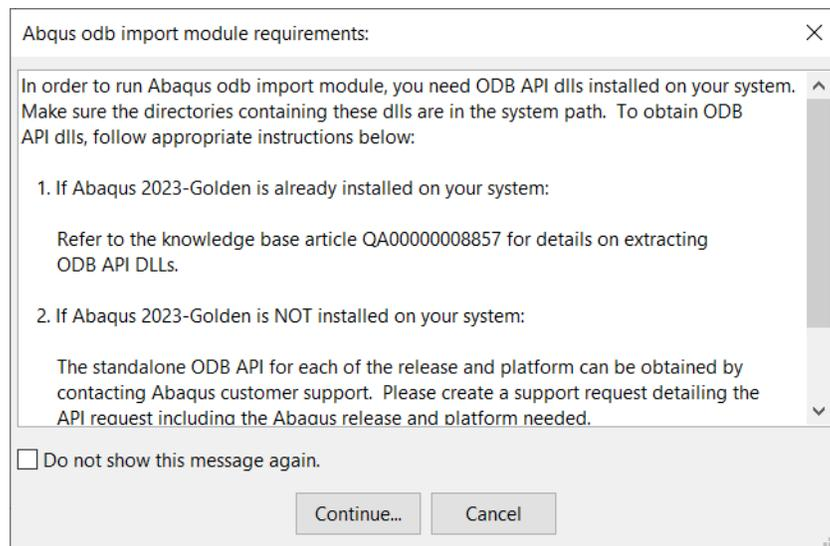

**Figure 5.1** Importing a finite element structure mesh.
- To import FE mesh: Right-click on **Structures** and select **Import** → **Nastran Bulk Data (.bdf) File** (see Figure 5.1) to import mesh from Nastran bulk data format. The FE meshes from other data formats
Right-click on **Model** → **Structures** and select any of the file format options from **Import** (refer to Figure 5.1). *Coustyx* has the capability to import FE meshes from the following data formats.